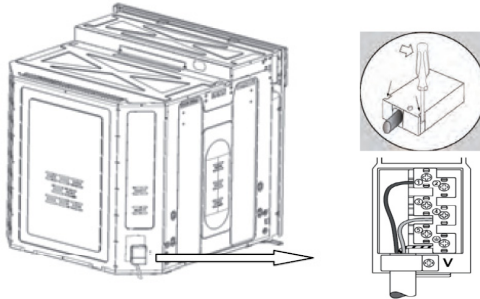

Figure 2.
1. Open the terminal board by placing a screwdriver under the side flaps on the cover, pull and then open the cover (see **figure 2**).
**BLUE - NEUTRAL (N)**
**BROWN - LIVE (L)**